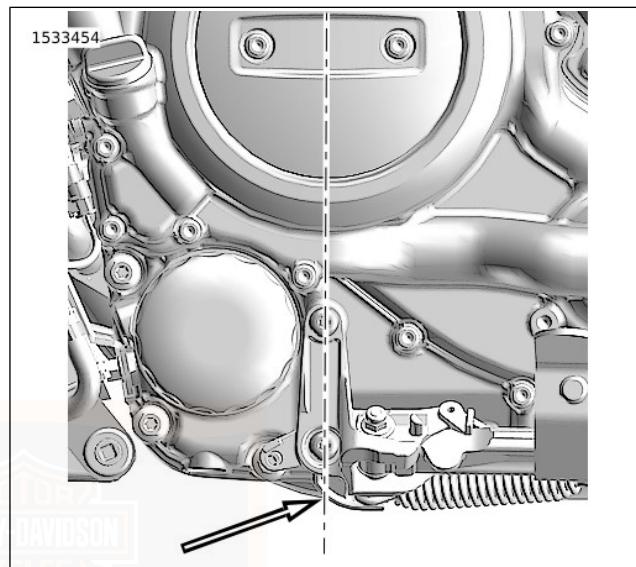

Figure 51. Crankshaft Centerline
- See Figure 51. When lifting motorcycle from underneath, always lift directly below crankshaft centerline with wood between motorcycle and lift.